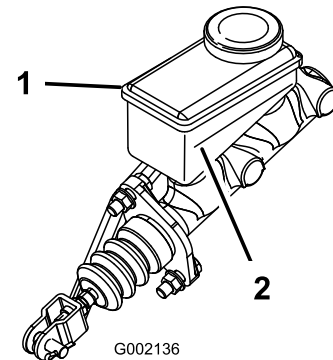

Figure 110
5. Look at the outline of the fluid level at the side of the reservoir (Figure 110).
- B. Add DOT 3 brake fluid to the reservoir until the fluid level is above the Minimum line (Figure 110).